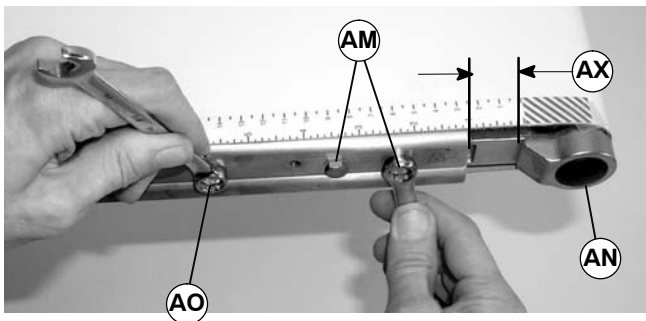

Figure 27
1. On tension end of the conveyor, loosen two M6 hex head cap screws (AM of Figure 27) on each side of conveyor.
**NOTE:** Do not exceed a torque of 25 in-lb (2.8 Nm) for 2" to 12" (44 mm to 305 mm) wide conveyors or 40 in-lb (4.5 Nm) for an 18" (457 mm) wide conveyor on tensioning screw (AO). Over-tensioning the conveyor belt could cause excessive pulley bearing load and early failure.
- 2a. For an existing belt, extend idler spindle assembly (AN) by turning M6 hex head screw (AO) clockwise to sufficiently tension belt to handle conveyor load.
- 2b. For a new belt, extend idler spindle assembly (AN of Figure 27) 1" (25 mm) (AX) by turning M6 hex head screw (AO) clockwise.
3. Tighten four M6 hex head screws (AM) to 40 in-lb (4.5 Nm) to secure idler spindle assembly (AN).